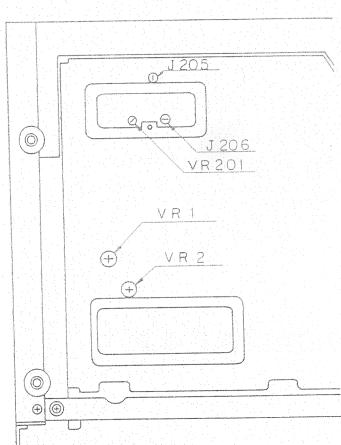

Fig. 18
- (1) Set digital volt meter to DC, 20V range, and connect its $(+)$ terminal to J205 and $(-)$ terminal to J206. (See Fig. 18)
- (1) The adjustment of the pin is to be made with tonearm at the rest position.
- (2) Lead-in position moves gradually inward by rotating the eccentric pin (A) in a clockwise direction.
4). Adjustment of Turntable Speed (See Fig. 18)
- (1) Put a record disc on the turntable platter and then put strobe sheet on a record disc. Move the tonearm by (<<) button up to the position where the turntable platter starts rotation.
- (2) Adjust speed by VR1 for 45 rpm, or by VR2 for 33-1/3 rpm to see strobe patterns come to a standstill. (See Fig. 18 and 21)